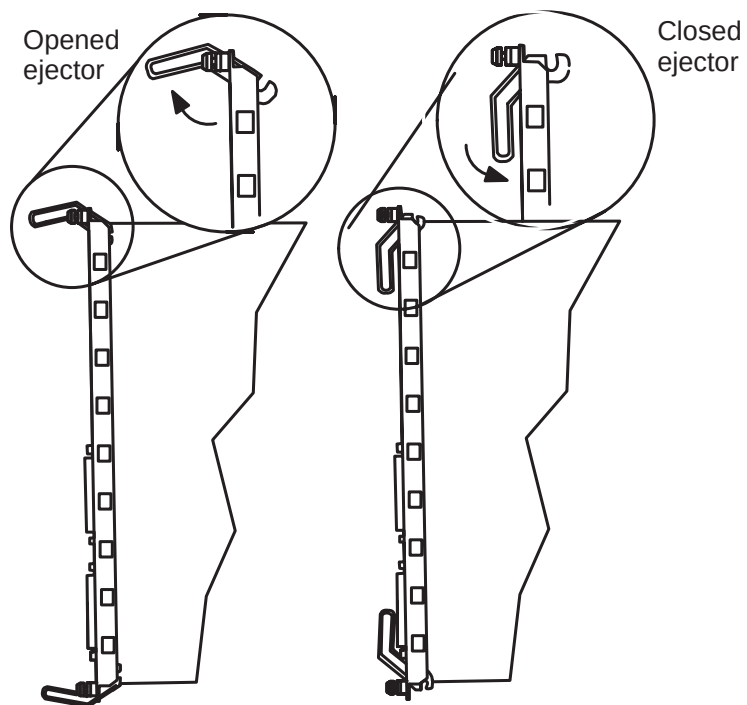

Figure 3-3 Opened and Closed Module Ejectors
- 6 Close the 12-Port 100BASE-TX Workgroup FastModule ejectors (Figure 3-3).